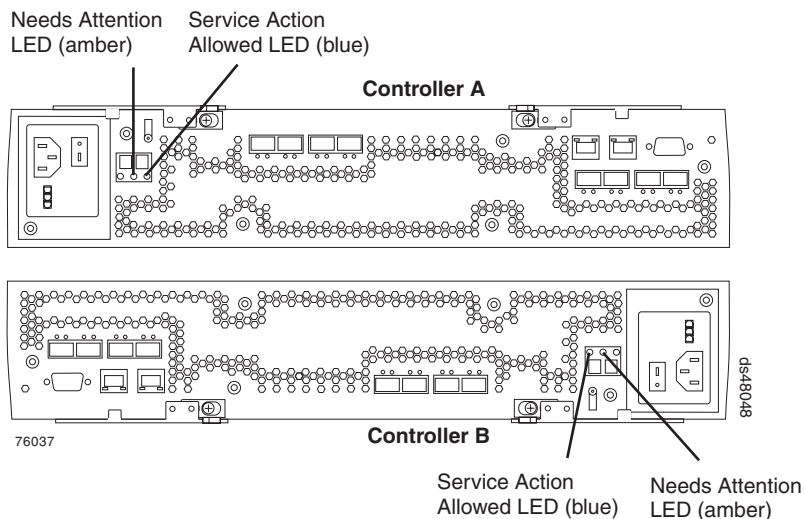

Figure 86. RAID controller Needs Attention and Service Action Allowed LEDs
2. Locate the failed controller by checking the Needs Attention status LEDs on the controllers in the storage subsystem. (Figure 86 on page 146 shows the
3. Is the Service Action Allowed status LED turned on? (Figure 86 shows the location of the Service Action Allowed status LED on the back of a controller.)